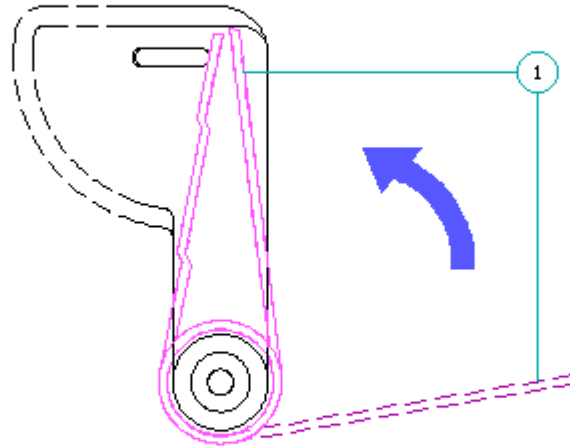

Figure 9-61. Compressing the Spring on the Guide (Power Switch Side)
3. Compress the spring by holding the horizontal guide and rotating the straight leg of the spring [1] toward the guide (Figure 9-61).